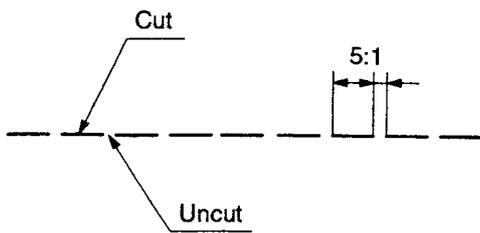

Figure 1-13. Perforations 1
- The length ratio of the cut part and uncut part of perforations must be more than 3 to 1 and less than 5 to 1 (Refer to Figure 1-13.).